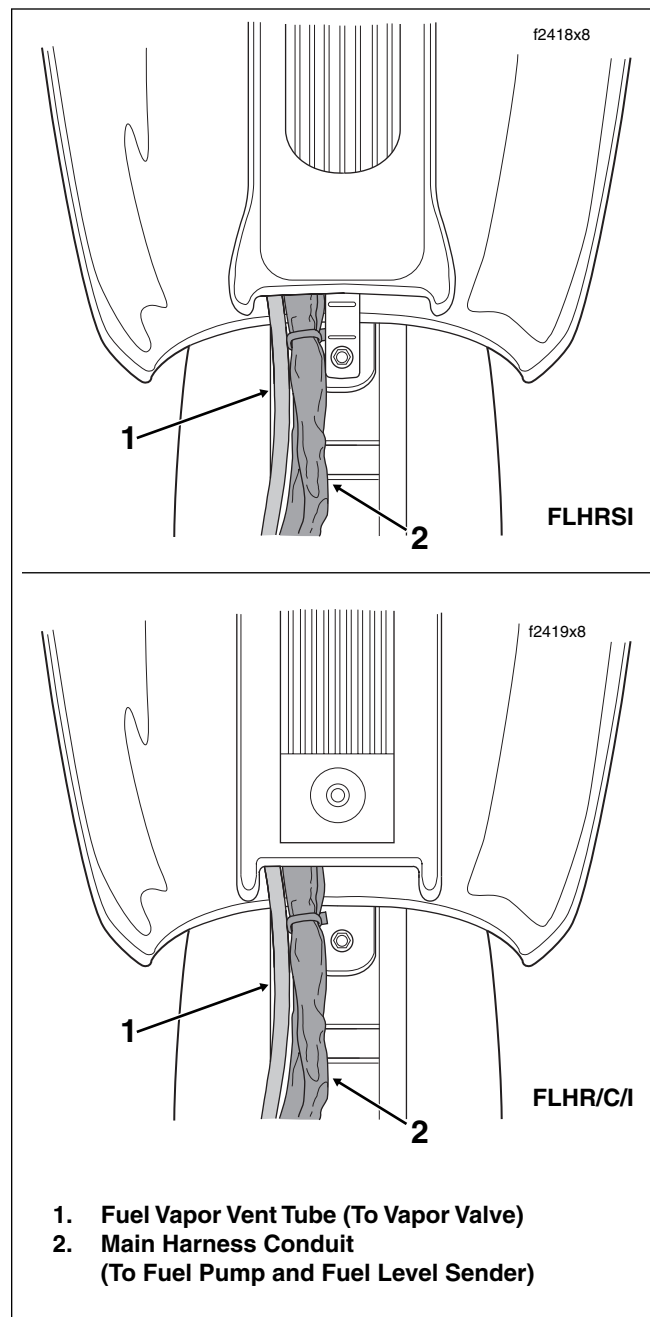

Figure 9-13. Console Cable/Hose Routing (FLHR/C/S/I)
8. Exercising caution to avoid pinching harness and vent tube, align hole in instrument console with console mounting bolt and place into position on fuel tank. See Figure 9-13.